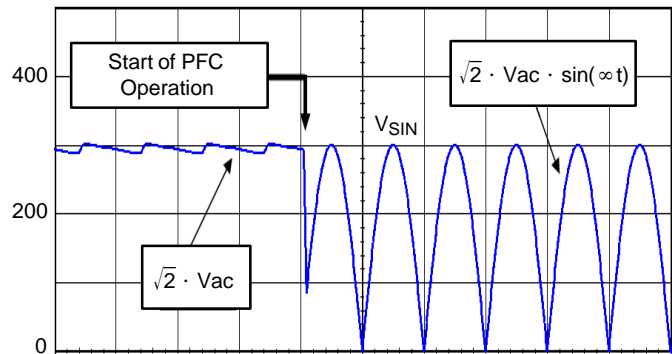

Figure 69. Typical Input Voltage of a PFC Stage
i.e., about 64% of the previous value. Therefore, the same line magnitude leads to a  $V_{Pin2}$  voltage that is 36% lower when the PFC is working than when it is off (refer to Figure 69). That is why the NCP1605 features a 50% hysteresis ( $V_{BOH} = 50\% V_{BOH}$ ).